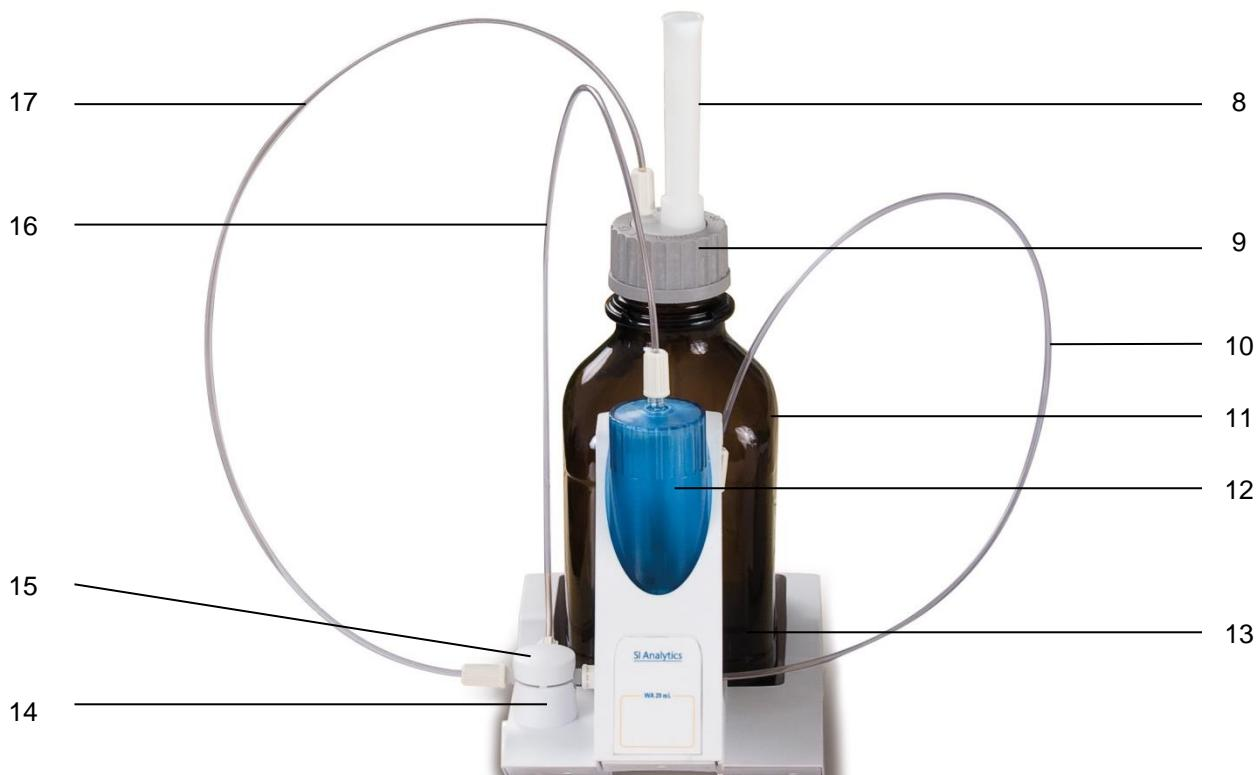

Fig. 9
Fig. 9 shows a completely assembled interchangeable unit.
2. Slip on the valve cover lid on the valve as is shown (Fig. 9).